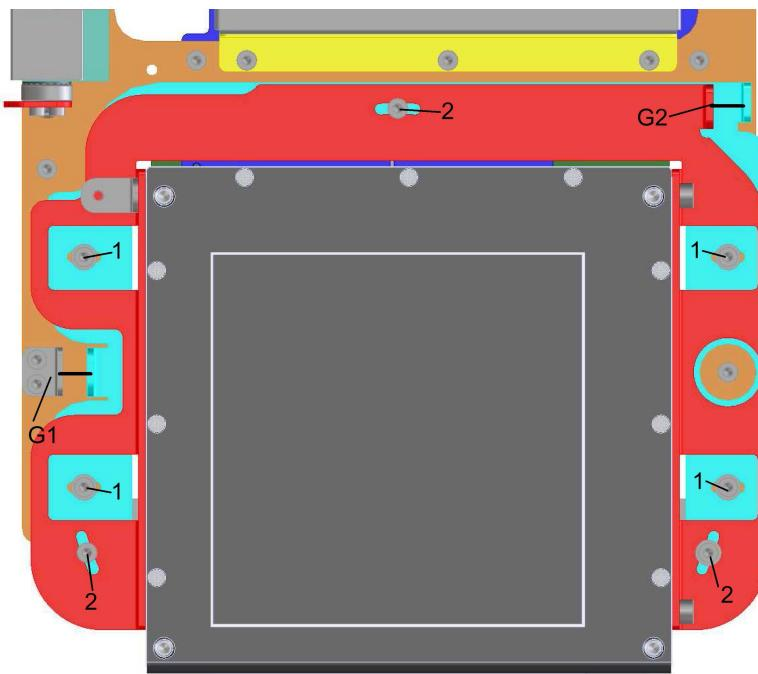

Figure 9-9
- In case the image is not parallel to the window, it is possible to move the digital sensor, acting on the screws "2" (Figure 9-9).
- In case the reference pins are not positioned in the center, it is necessary to move the digital sensor (screws "1" Figure 9-9).